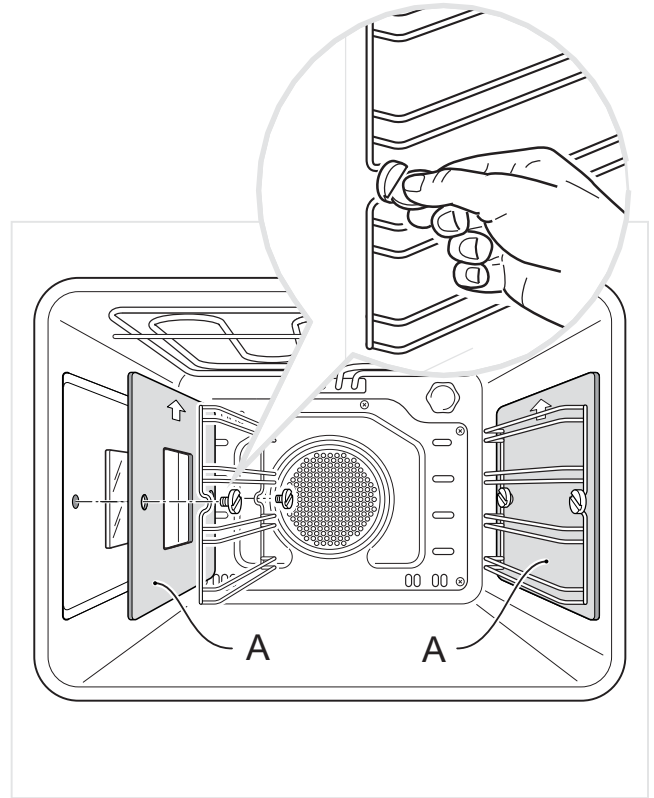

Figure 8a
- Slide into the guides, the shelf and the tray (figs. 8a, 8b).